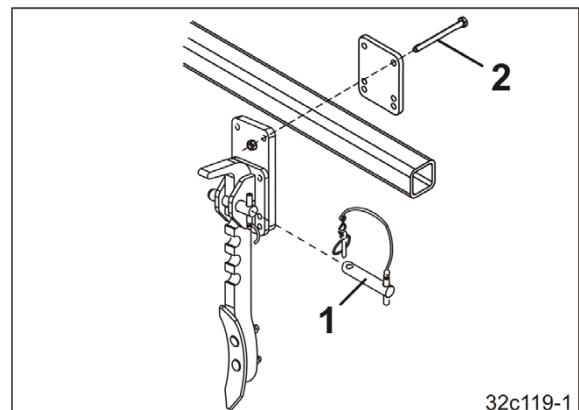
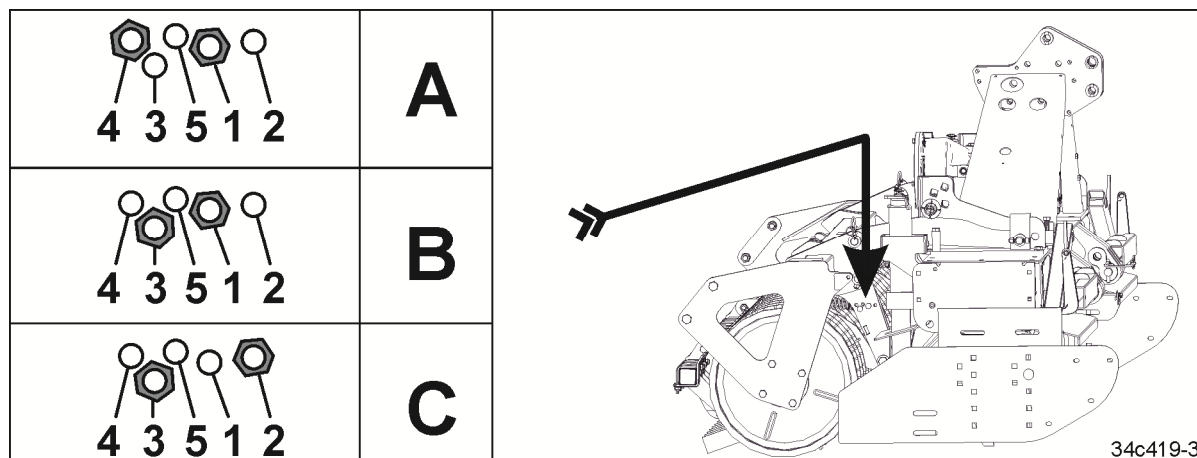

Fig. 107
Fig. 108
Adjust the tractor wheel mark eradicator vertically, position it and secure the positioning bolt (Fig. 107/1) with a lynch pin.
Adjust the tractor wheel mark eradicator horizontally and secure it with the screws (Fig. 107/2).
One bolt is inserted in hole (Fig. 108/1), the second bolt is inserted in hole (Fig. 108/4).
Repositioning of the bolt from hole (Fig. 108/4) to hole (Fig. 108/3) or (Fig. 108/5) causes only the net weight of the cutting rail is acting on the blades. The spring forces only comes into effect when the blades are raised and the bracket strikes against the bolt in hole (Fig. 108/3) or (Fig. 108/5).
- only after the bolt is inserted in hole (Fig. 108/3).
- later if the bolt is inserted in hole (Fig. 108/5).
Repositioning the bolt from hole (Fig. 108/1) to hole (Fig. 107/2) causes the roller to work without the blades. Raise the cutting rail to reposition the bolt.